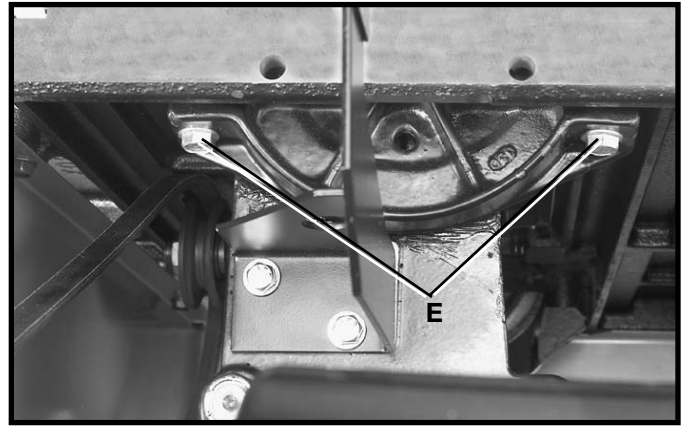

Fig. 101C
2. Lower blade. Remove blade guard and table insert. With a 1/2" wrench, loosen the 4 front and rear trunnion mounting bolts (E) Fig. 101C. **NOTE:** Only the 2 rear trunnion mounting bolts are shown.
4. To check blade alignment, follow (**CHECKING BLADE ALIGNMENT**) procedure until proper alignment is achieved. Tighten 4 trunnion bolts (E).
5. Check blade alignment again after tightening bolts to confirm alignment. If alignment is off, loosen the 4 trunnion bolts (E) and repeat the above steps until proper alignment is achieved with bolts fully tightened.